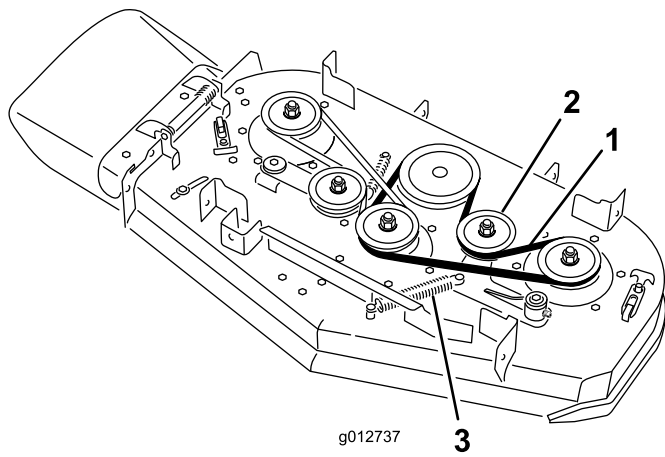

Figure 66
5. Remove the spring from the anchor post on the idler-pulley arm (Figure 66).
6. Remove the worn mower belt (Figure 66).
7. Install the new mower belt around the deck pulleys, the clutch pulley, and the idler pulley (Figure 66).
8. Install the spring onto the anchor post (Figure 66).